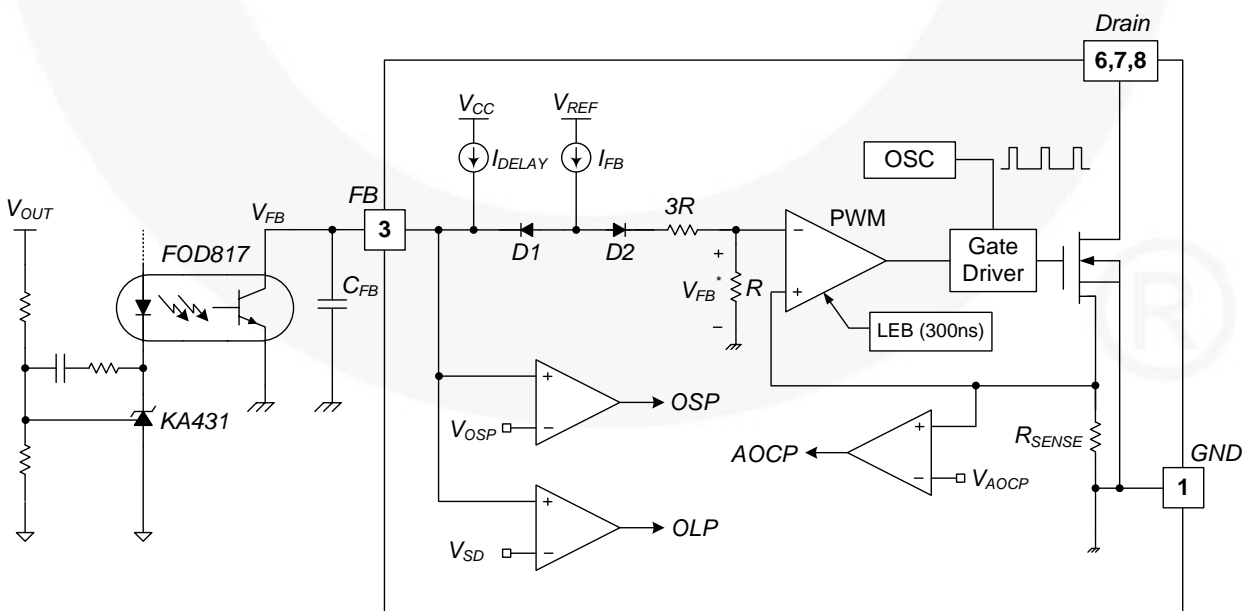

Figure 19. Pulse Width Modulation Circuit
3. Feedback Control: This device employs current-mode control, as shown in Figure 19. An opto-coupler (such as the FOD817) and shunt regulator (such as the KA431) are typically used to implement the feedback network. Comparing the feedback voltage with the voltage across the R_{SENSE} resistor makes it possible to control the switching duty cycle. When the reference pin voltage of the shunt regulator exceeds the internal reference voltage of 2.5 V, the opto-coupler LED current increases, pulling down the feedback voltage and reducing drain current. This typically occurs when the input voltage is increased or the output load is decreased.
3.1 Pulse-by-Pulse Current Limit: Because current-mode control is employed, the peak current through the SenseFET is limited by the inverting input of the PWM comparator (V_{FB}^*), as shown in Figure 19. Assuming that the 90 μ A current source flows only through the internal resistor ($3R + R = 27$ k Ω), the cathode voltage of diode D2 is about 2.5 V. Since D1 is blocked when the feedback voltage (V_{FB}) exceeds 2.5 V, the maximum voltage of the cathode of D2 is clamped at this voltage. Therefore, the peak value of the current through the SenseFET is limited.